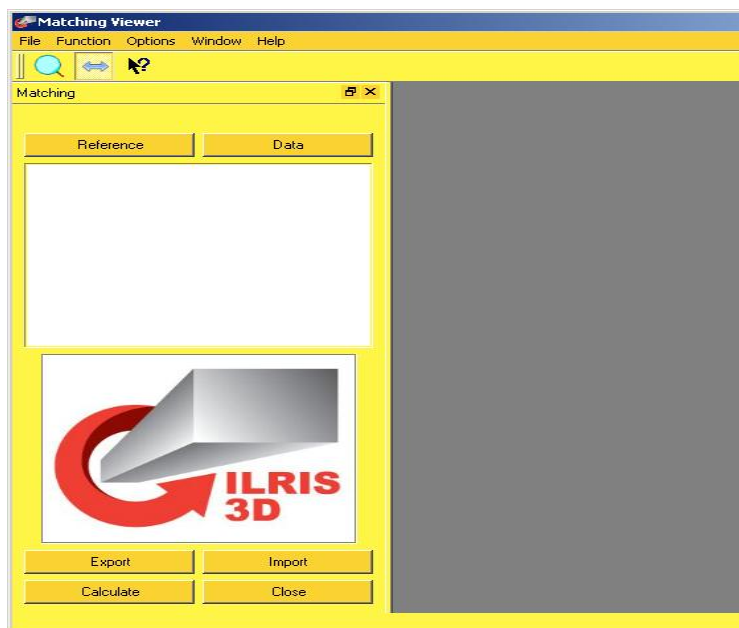

Figure 7: Matching window
| Figure 7: Matching window | 6 |
1. Select **File > Matching**, or press **CTRL+M**, or click the ⇄ icon. The Matching window appears (Figure 7).